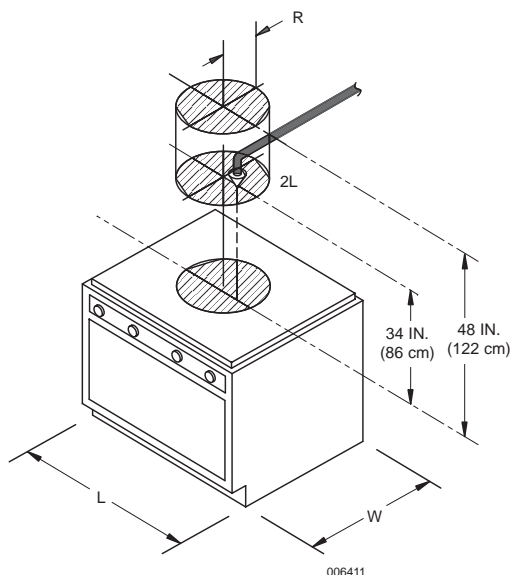

Figure 3-5.
The Model 2L nozzle, Part No. 551027, is used for high proximity large range protection. This nozzle is a two (2) flow nozzle. **When using high proximity protection, the range cannot be under a backshelf.** This nozzle must be located 34 in. to 48 in. (86 to 122 cm) above the cooking surface, and aimed directly down within the mounting area, based on the hazard size, as described in the Nozzle Positioning Chart. See **Figure 3-5**.